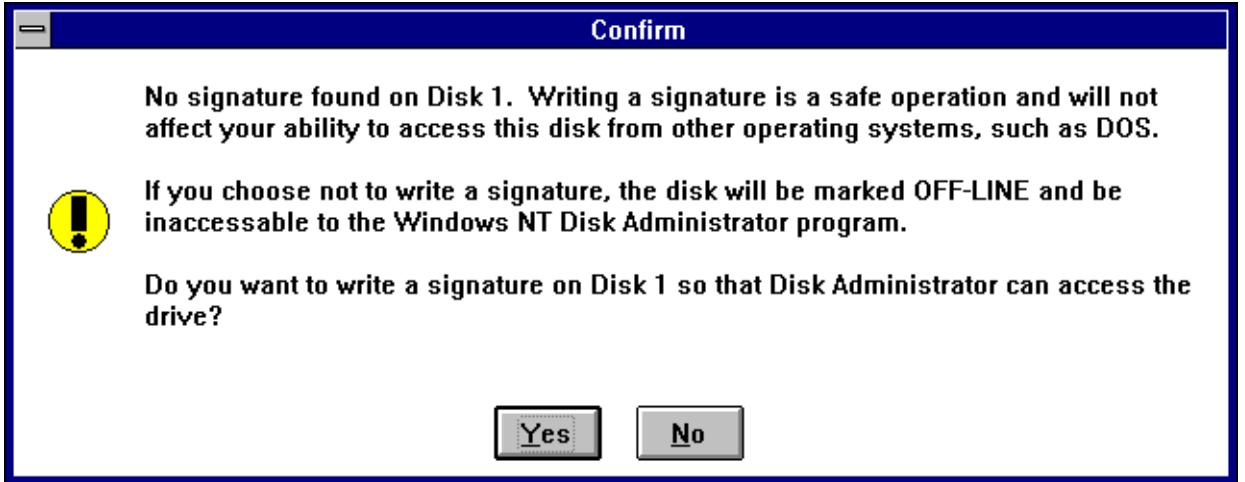

Figure 3.1 Writing the Signatures
To write the signatures on the new disk devices (see Figure 3.1 and Figure 3.2):
3. The Disk Administrator now displays each new device by disk number and asks if you want to write a signature on the disk (see Figure 3.1). For all SCSI disk devices, select **Yes** to write a signature.